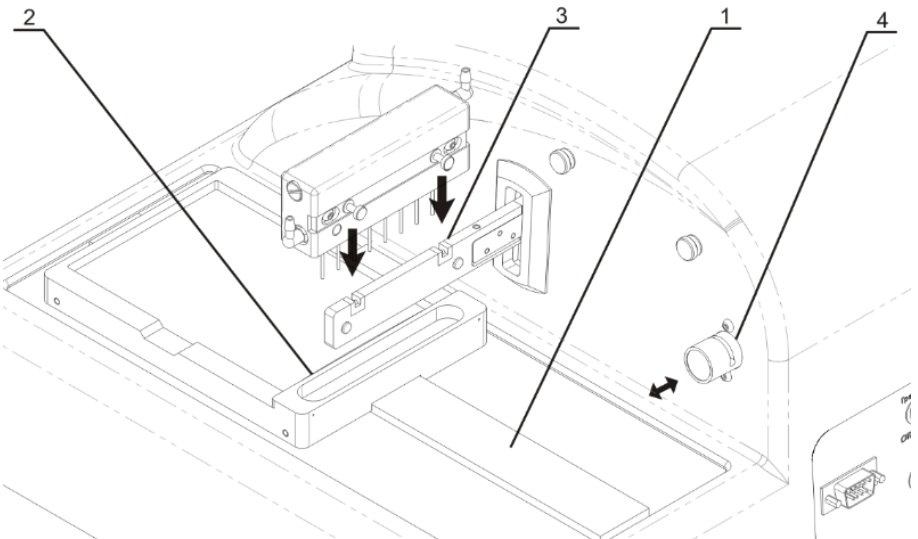

Figure 3. Unit side and back overview. Setting up.
4.3.4 Place the plate platform on the railing (fig. 3/1) so that the plate holder (flat spring) faces the rear side of the unit (fig. 3/2). Magnet on the other side of the rail locks the platform into start position.
4.3.6 Install the manifold in the slots of the holder arm (fig. 3/3). Magnets in the manifold and the holder arm connect and align the manifold.
4.3.8 Insert the manifold tube (fig. 3/2) into the valve opening (fig. 3/4). Press the valve in the direction of the arrow and hold the valve while stretching the tube and pulling it through the opening. Release the valve.
Note. When working with the FastFRAME plates, remove the plate holder (fig. 3/2). Install it back after operations.